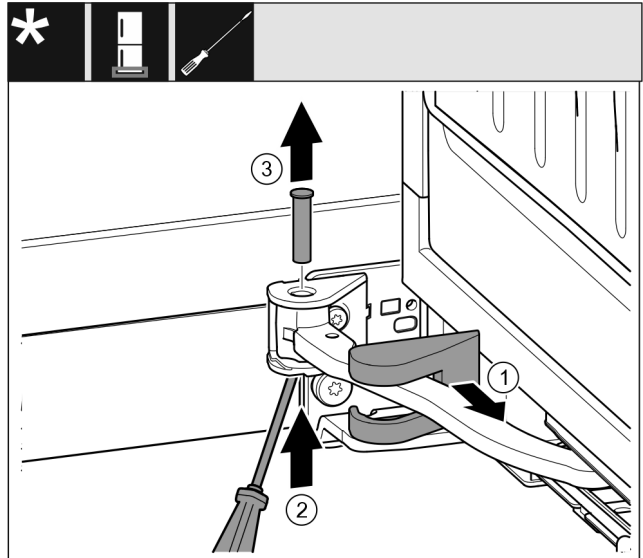

Fig. 15
- Remove the bearing bracket cover and push it along the hinge. Fig. 15 (1)
- Lift the bolt with a finger or screwdriver from below. Fig. 15 (2)
- Insert the screwdriver under the bolt head and pull it out. Fig. 15 (3)